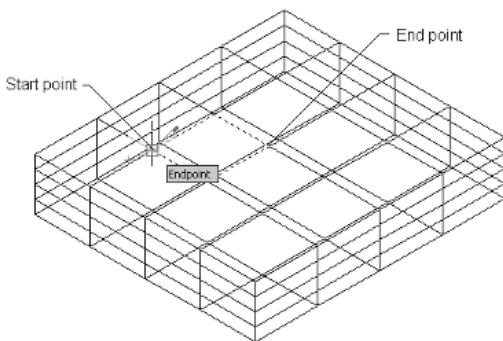

Figure 29-36 Face selected to split
3. Specify the start and end points of the cutting line, as shown in Figure 29-36; the selected face gets split into two faces diagonally.